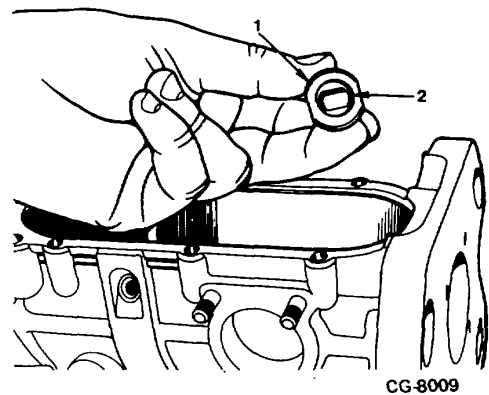

Figure 6. Tappet and Spring Seat
18. Coat each lower spring seat with grease. Stick lower spring seat on each roller tappet (Figure 6)